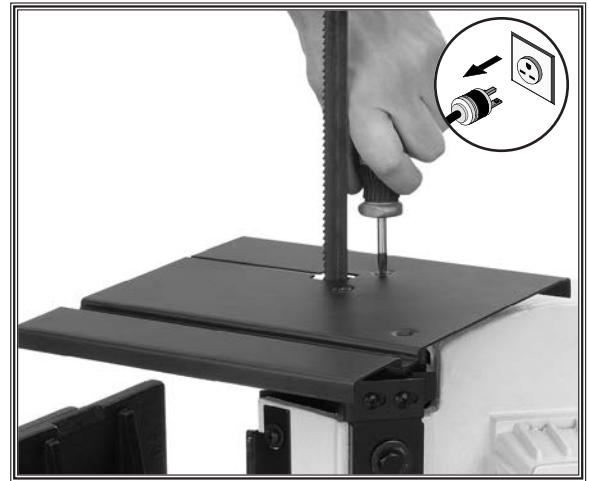

Figure 25. Installing the table.
4. Position and install the vertical cutting table with the two stop plate mounting screws as shown in **Figure 25**).